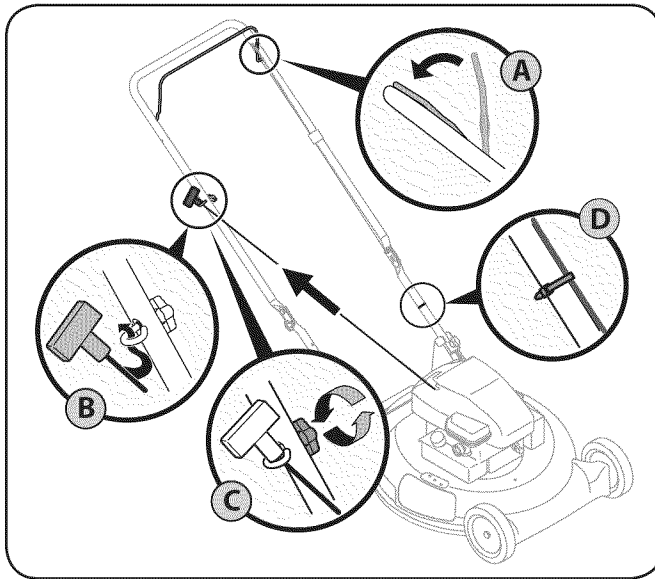

**Figure 3-4**
- a. Pull upward on the handle 8 inches until holes in lower handle (shown in Figure 3-3 deck cutaway) line up with holes in handle bracket. See Figure 3-4.
- b. Insert the T-bolts removed earlier through the handle brackets and lower handle and tighten securely to secure the handle in place. See Figure 3-4.